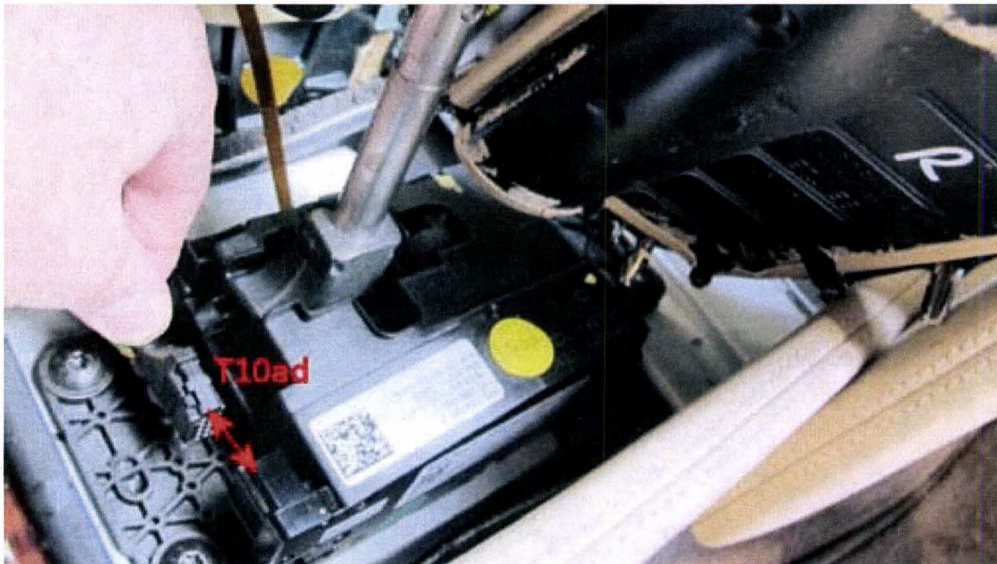

Figure 1
To disconnect/reconnect the gear selector electronics disconnect the 10 way connector (connector T10ad in current flow diagrams) at the gear selector assembly (see Figure 1)
4. Disconnect and reconnect connector T10ad (see Figure 1)